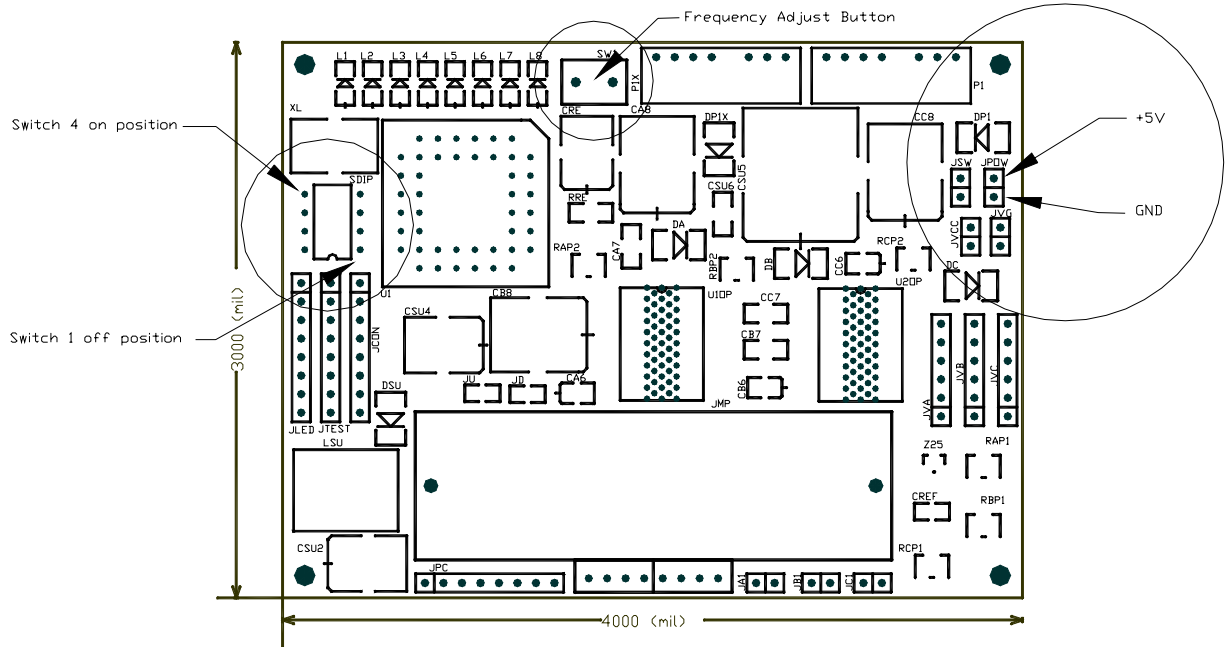
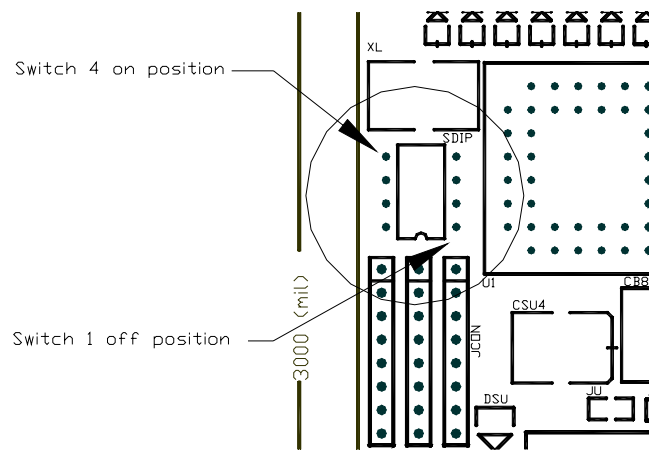
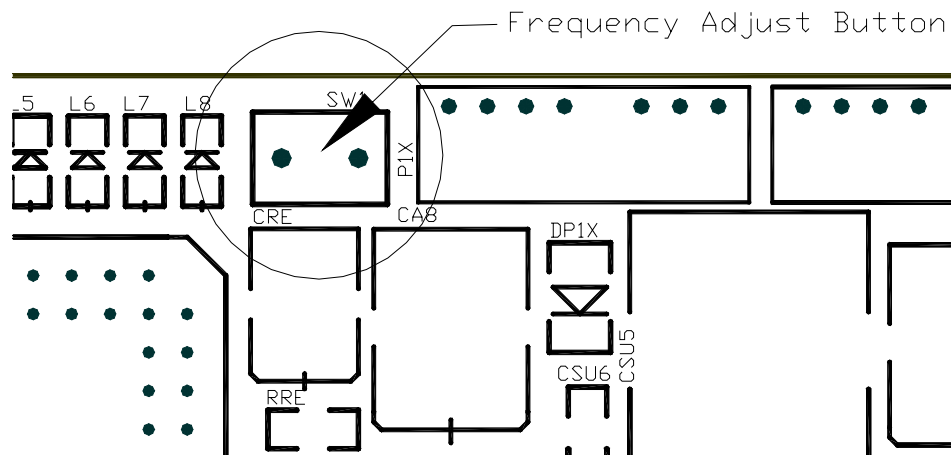

Figure 2. Circuit board layout showing the DC power connector location on the driver board (Top View).
Figure 4 Initial scrambling frequency setting.
Figure 5 Location of frequency adjustment button SW1 (Top View)
An overview of the miniature polarization scrambler board is shown in Figure 2. The board consists of a PolaRite III polarization controller, driving electronics, power and
communication connector blocks. The external power supply needs to be connected to a 2-pin connector jumper block JPOW near upper right hand corner as shown in Figure 2 and 3, along with the pin assignment scheme for the JPOW connector.
1. Set the power supply to the correct voltage before connecting the power cable. Turn off the power supply before plugging the cable to power jumper connector JPOW shown in Figure 2 and 3. The cable connector is unidirectional.
2. Turn on the power supply after connecting power cable. The device will be operating at the initial scrambling frequency that is determined by the SDIP switch shown in Figure 2 and Figure 4.
The initial scrambling frequency is user selectable using the DIP switch SDIP located at the left hand side of the board shown in Figure 2. The initial scrambling frequencies and the corresponding switch positions are listed in Table 1 where the digit 0 stands for OFF position and digit 1 stands for ON position. The factory setting is all OFF, that is, the 0000 setting corresponding to the highest scrambling frequency.
3. Scrambling frequency selection/changing during normal operation: Pressing switch SW1 shown in Figure 2 and Figure 5 will increase the scrambling frequency sequentially according to the order in Table 1. Once the maximum scrambling frequency is achieved, pressing SW1 again will switch the scrambling frequency to the lowest frequency (10 Hz) setting. The operation of SW1 results in a cyclic frequency settings.